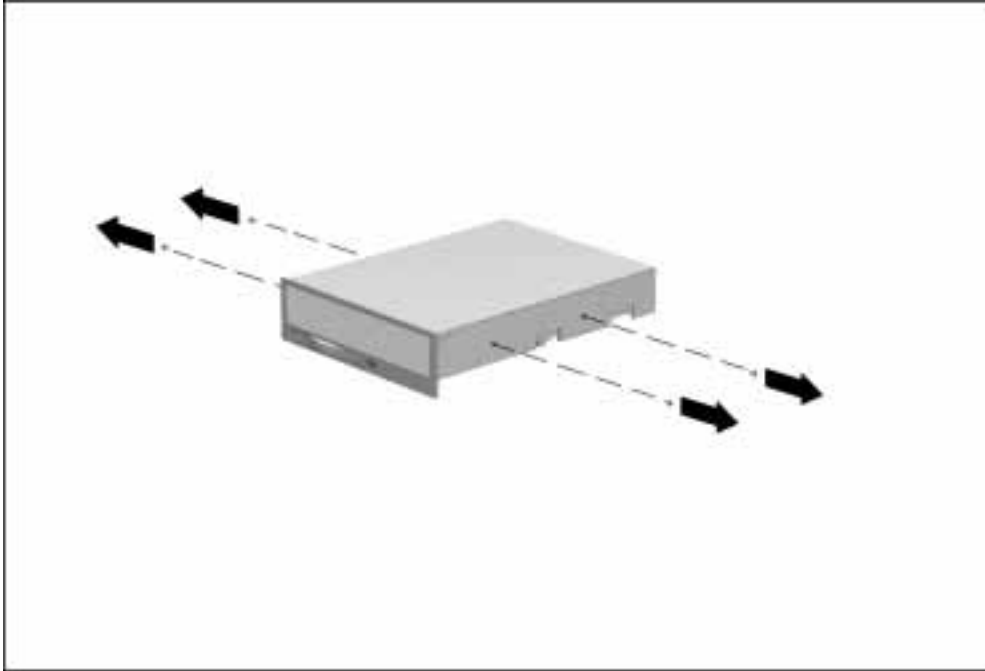

Figure 5-22. Removing the Half-Height MultiBay Adapter Screws
4. Remove the screws from the sides of the half-height MultiBay adapter (Figure 5-22).